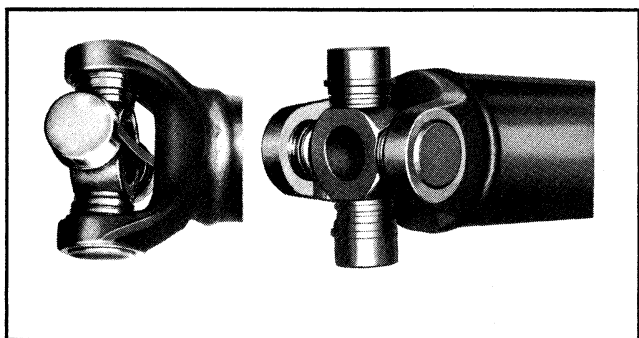

Fig. 4A-3 Bearings Held in Place by Tie Wire
a. With yoke member clamped or supported in vise, drive bearing out as far as possible using drift applied to center part of journal (Fig. 4A-6).